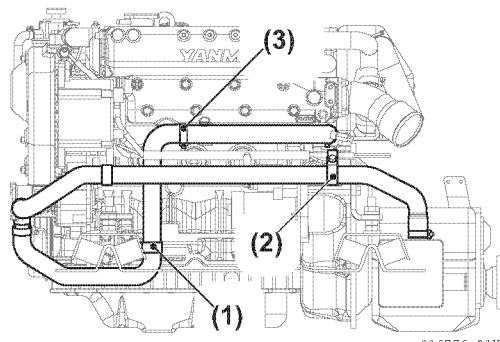

Figure 5-180
- Figure 5-180 shows Seawater Pipes for 4JH4AE with ZF30D (typical).